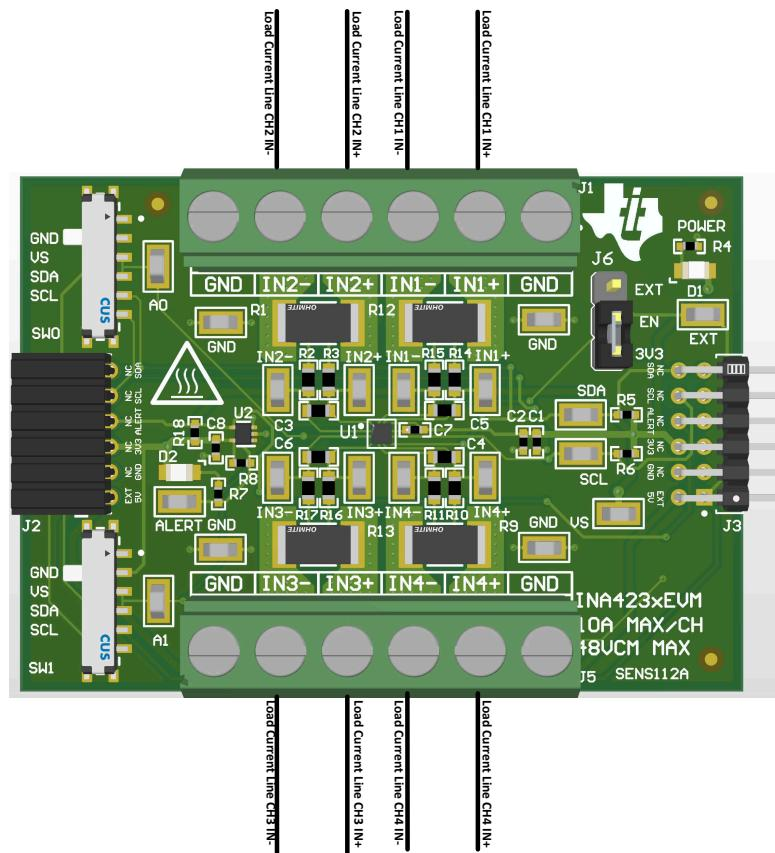

Figure 2-4. IN+ and IN- Wiring for 10A or Less
- a. Solder a 2512 resistor across the pads of R1, R12, R13, or R9 that connects the IN+ and IN- inputs as shown in Figure 2-4.